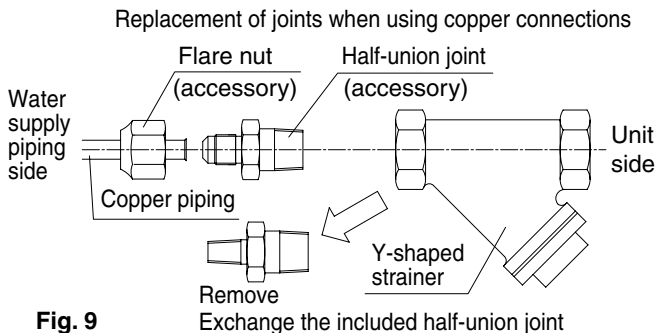

Fig. 9 Exchange the included half-union joint
- When using copper piping for the water supply connections, replace the included half-union joints. (Refer to Fig. 9)